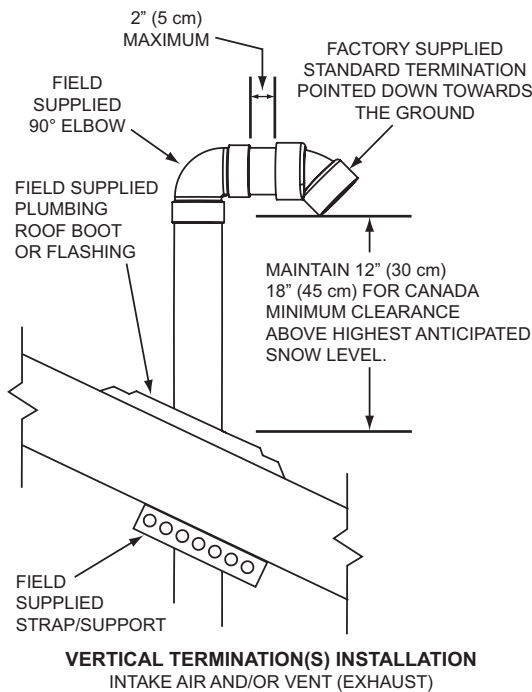
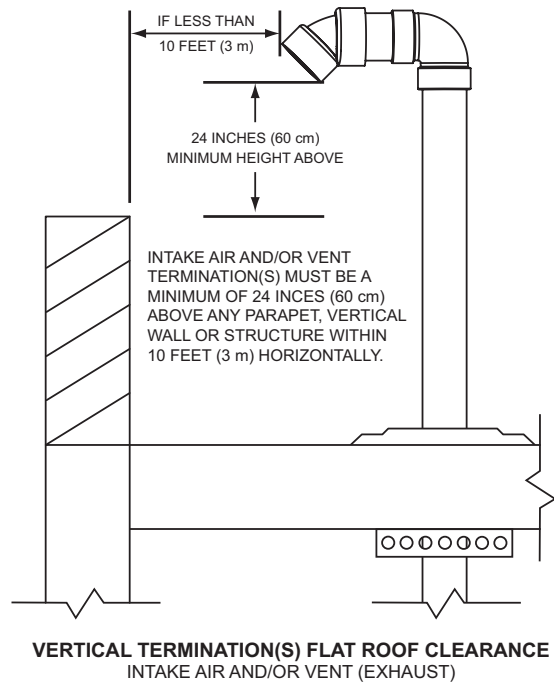
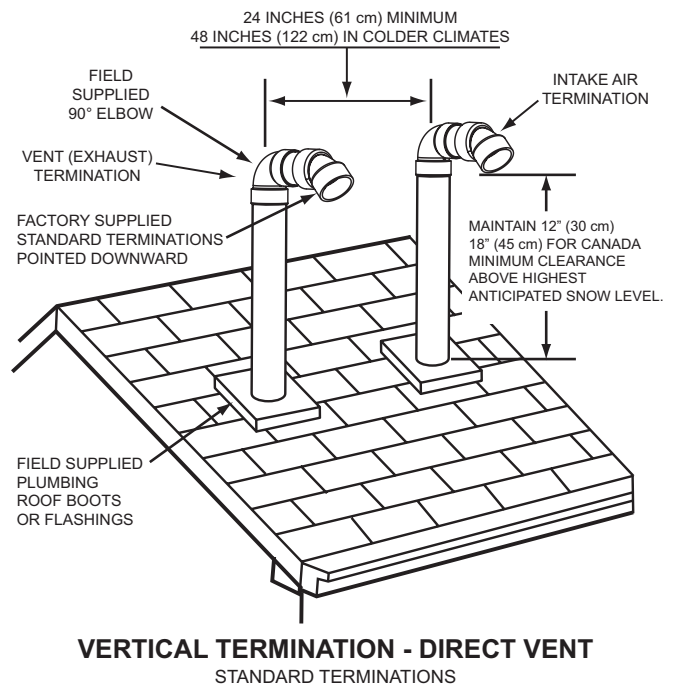

Figure 19
Figure 20
Figure 21
- If installing only the vent (exhaust) piping in a Power Vent configuration vertically through the roof; ensure that all exterior vertical clearance requirements shown in Figure 19 and Figure 20 on page 25 are being maintained. These clearances and those cited by local and national codes must be maintained.
NOTE: On flat roof installations the vent termination must be a minimum of 24 inches (60 cm) above any parapet, vertical wall or structure within 10 feet (3 m) horizontally. See Figure 20 on page 25.
- If installing both intake air and vent piping in a Direct Vent configuration vertically through the roof; ensure that all exterior vertical clearance requirements shown in Figure 20 and Figure 21 on page 25 are being maintained. These clearances and those cited by local and national codes must be maintained.
NOTE: On flat roof installations the intake air and the vent terminations must be a minimum of 24 inches (60 cm) above any parapet, vertical wall or structure within 10 feet (3 m) horizontally. See Figure 20 on page 25.
The vent termination must be oriented facing downward as shown in Figure 19 and Figure 20.
The bottom edge of the vent termination must be a minimum of 12 inches (30 cm), 18 inches (45 cm) in Canada, above the average or expected snow level as shown in Figure 19.
The intake air and vent pipes must penetrate the same side of the roof as shown in Figure 21.
The intake air and vent terminations must be oriented facing downward and in the same direction as shown in Figure 21.
The intake air and vent terminations must have a minimum separation of 24" (61 cm) measured on center line as shown in Figure 21. In colder climates this separation should be increased to at least 48 inches (122 cm).
The bottom edge of the intake air and vent terminations must be a minimum of 12 inches (30 cm), 18 inches (45 cm) in Canada, above the average or expected snow level as shown in Figure 19 and Figure 21.
The distance between the closest vent and intake air terminations must be a minimum of 24 inches (61 cm) as shown in Figure 21. In colder climates this separation should be increased to at least 48 inches (122 cm).
- Suspend the pipe(s) through center of hole using field supplied metal strapping or equivalent support materials as shown in Figure 19.
- Slide a roof boot or equivalent flashing over the pipe and secure roof boot or equivalent flashing to roof (see Figure 19) and seal around the flashing.
- Install the factory supplied intake air and/or vent termination(s) using field supplied pipe and one field supplied 90° elbow as shown in Figure 19. The short section of pipe that connects between the field supplied 90° elbow and the factory supplied termination must not be excessive in length. The exposed portion of this pipe shall be no more than 2 inches (5 cm), see Figure 19.